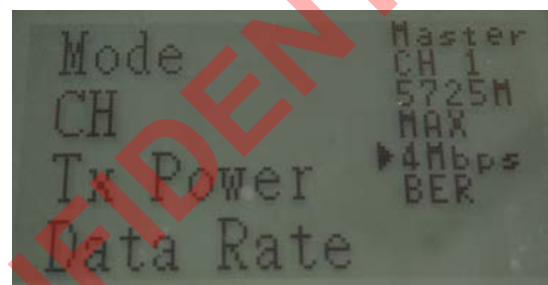

Fig.8
2. Press 'Enter' button, the cursor jumps to Sub Menu as shown in Fig.8.